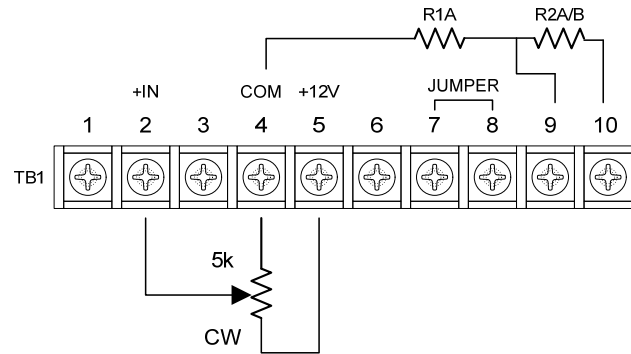

Figure 4.3 Remote Control with a Potentiometer
- a. With the power to the DCPF3 turned off, connect the potentiometer as shown in Figure 4.3. The CW position is the full power output position. Terminal TB1-5 is internally connected to a positive DC voltage source. Do not remove R1A and R2A/B on TB1, these are factory installed.